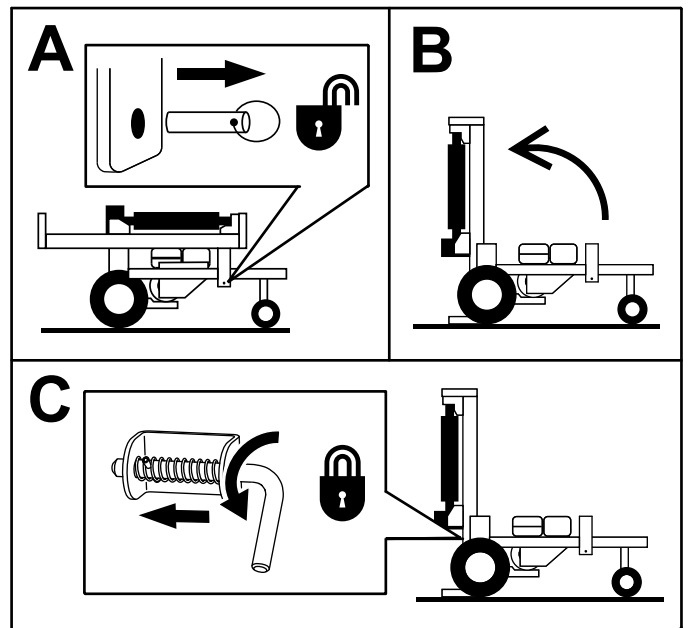

Figure 10
3. Remove the lock pin (Figure 10).
4. Rotate the rail so that it is vertical, against the base of the machine (Figure 10).
5. Rotate the vertical lock lever to the closed position to secure the lower rail in place (Figure 10).